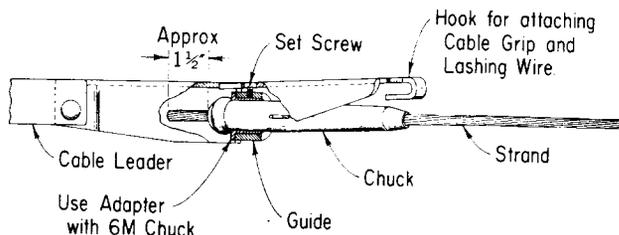

Fig. 2 — D Cable Leader Grip Assembly
2.02 To attach the suspension strand to the cable leader, 6M or 10M chucks are used as shown in Fig. 2.